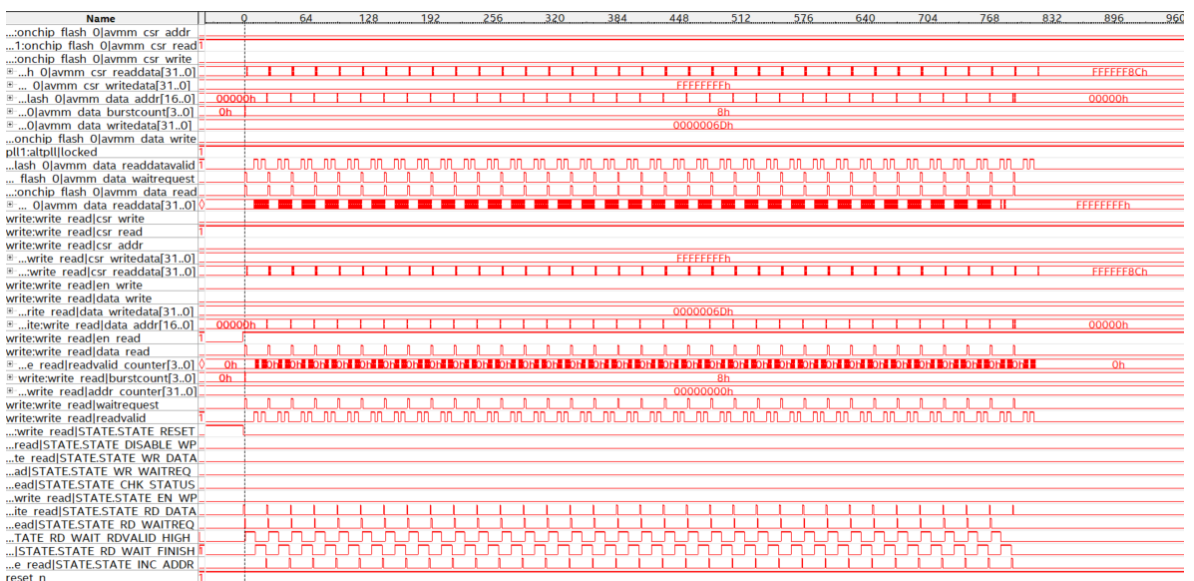

Figure 5: data\_readdata and data\_addr signals from Signal Tap during read operation
16. Burst count is set to 8 during incrementing burst read operation. Read operation will stop after address reach 256. data\_readdata value is the data that was write into the flash IP core previously as shown in the Figure 5.